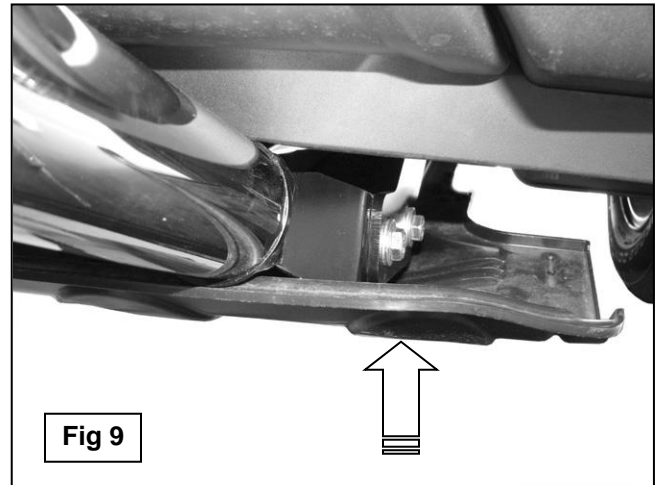
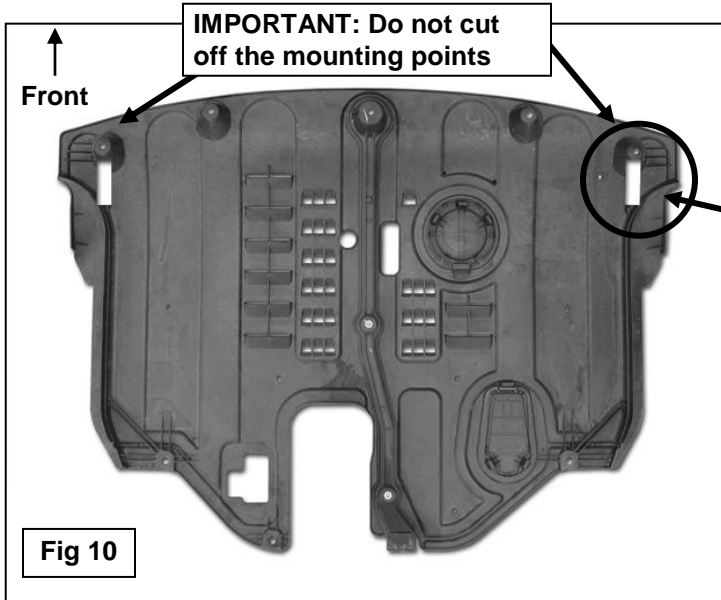

Fig 9
Fig 10
2. Starting under the front of the vehicle, remove the large plastic splash guard, **(Figure 10)**. **NOTE:** Pay close attention to the size, type and location of all factory hardware for reinstallation.
14. Hold the plastic splash guard up in position against the (2) Frame Brackets, **(Figure 9)**. Use a marker or removable tape to mark the location of the Frame Brackets onto the inside of the splash guard, **(Figure 10)**. Cut slots in the splash guard to clear the Brackets. **IMPORTANT:** Start with small slots and gradually enlarge the size for best fit. Do not cut through the front edge of the splash guard. Do not remove the mounting locations from the cover. Only cut slots big enough to clear the Frame Brackets. Once the cover clears the Brackets, reinstall the cover with the factory hardware removed in **Step 2**.